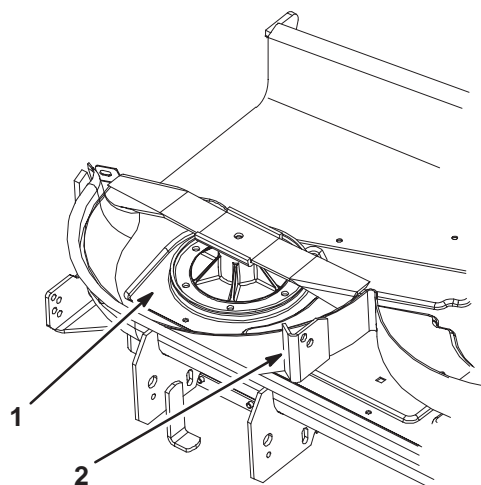

Figure 4
Note: This section is only for mowers with a stiffener welded to the cutting chamber (Fig. 4).
1. Remove the cutting chamber stiffener from the mower (Fig. 4).